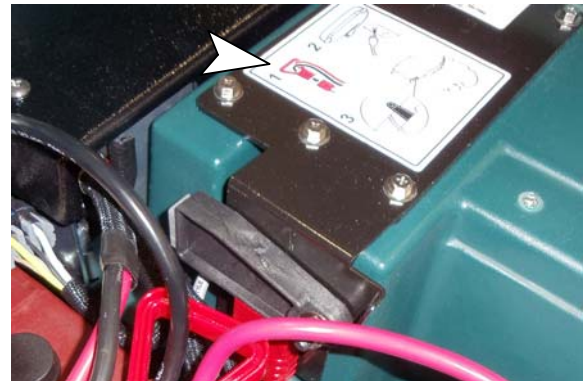

Fig. 14
14. Apply 1051362 label to the actuator cover plate as shown (Figure 14).